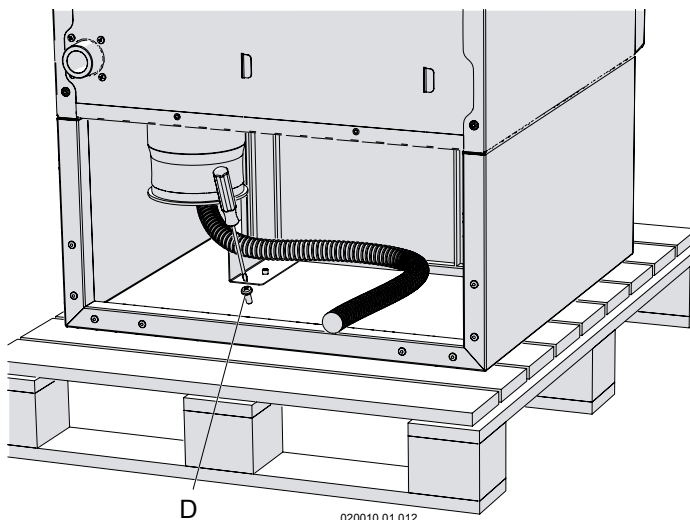

Figure 6-2 Remove appliance from wood pallet
- 3.- Remove the screw "D" in the rear of the unit (Figure 6-2);